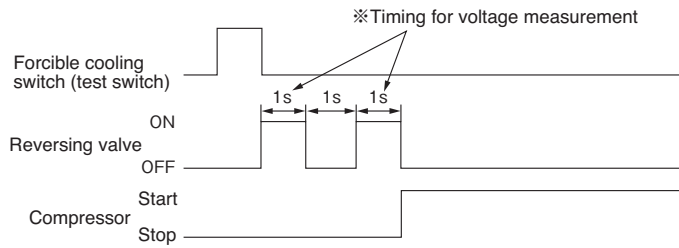

Fig. 3-1
- The product is energized twice at increments of 1 second as illustrated in Fig. 3-1, starting immediately before compressor startup.
- During forcible cooling, the product is energized twice at increments of 1 second as illustrated in Fig. 3-1, starting immediately after the forcible freezing switch is turned on.